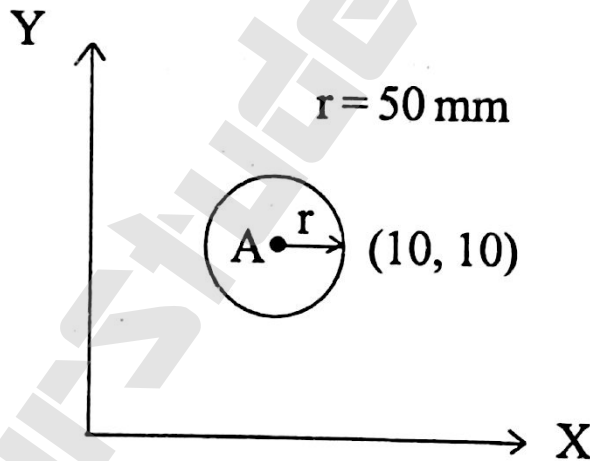

Fig. 1, Q. 3(a)
3. (a) Fig. 1 shows a circle with radius $r = 50$ mm. Centre 'A' [10, 10] is to be converted into an ellipse with major axis $a = 90$ mm and minor axis $b = 60$ mm. Find the total transformation matrix. 9